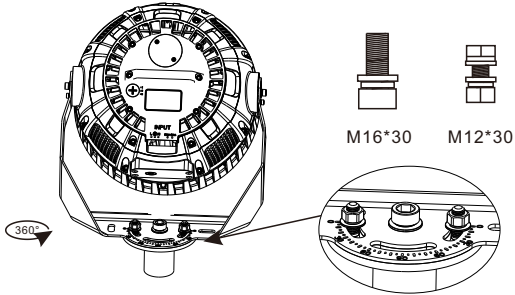

Figure 11
2. According to the need to adjust the lighting direction, can be 360 degrees rotation adjustment, tightened with screws when the adjustment is completed (Figure 11);